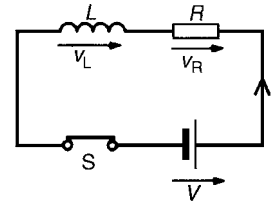

Figure 18.10
- (a) The circuit diagram for a series connected  $L - R$  circuit is shown in Fig. 18.10. When switch  $S$  is